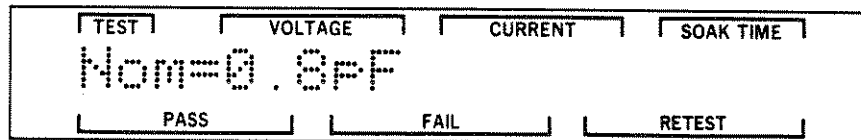

Figure 3-67. Nominal Capacitance Screen
STEP 7. Press the LEFT pushbutton followed by the DOWN pushbutton to display the Nominal Capacitance and Charge Rate screen. Press the RIGHT or LEFT pushbutton until only the Nominal Capacitance is displayed. Press the INC or DEC pushbutton to set this to the nominal value of the sample capacitor. Refer to Figure 3-67 for an example of this screen.